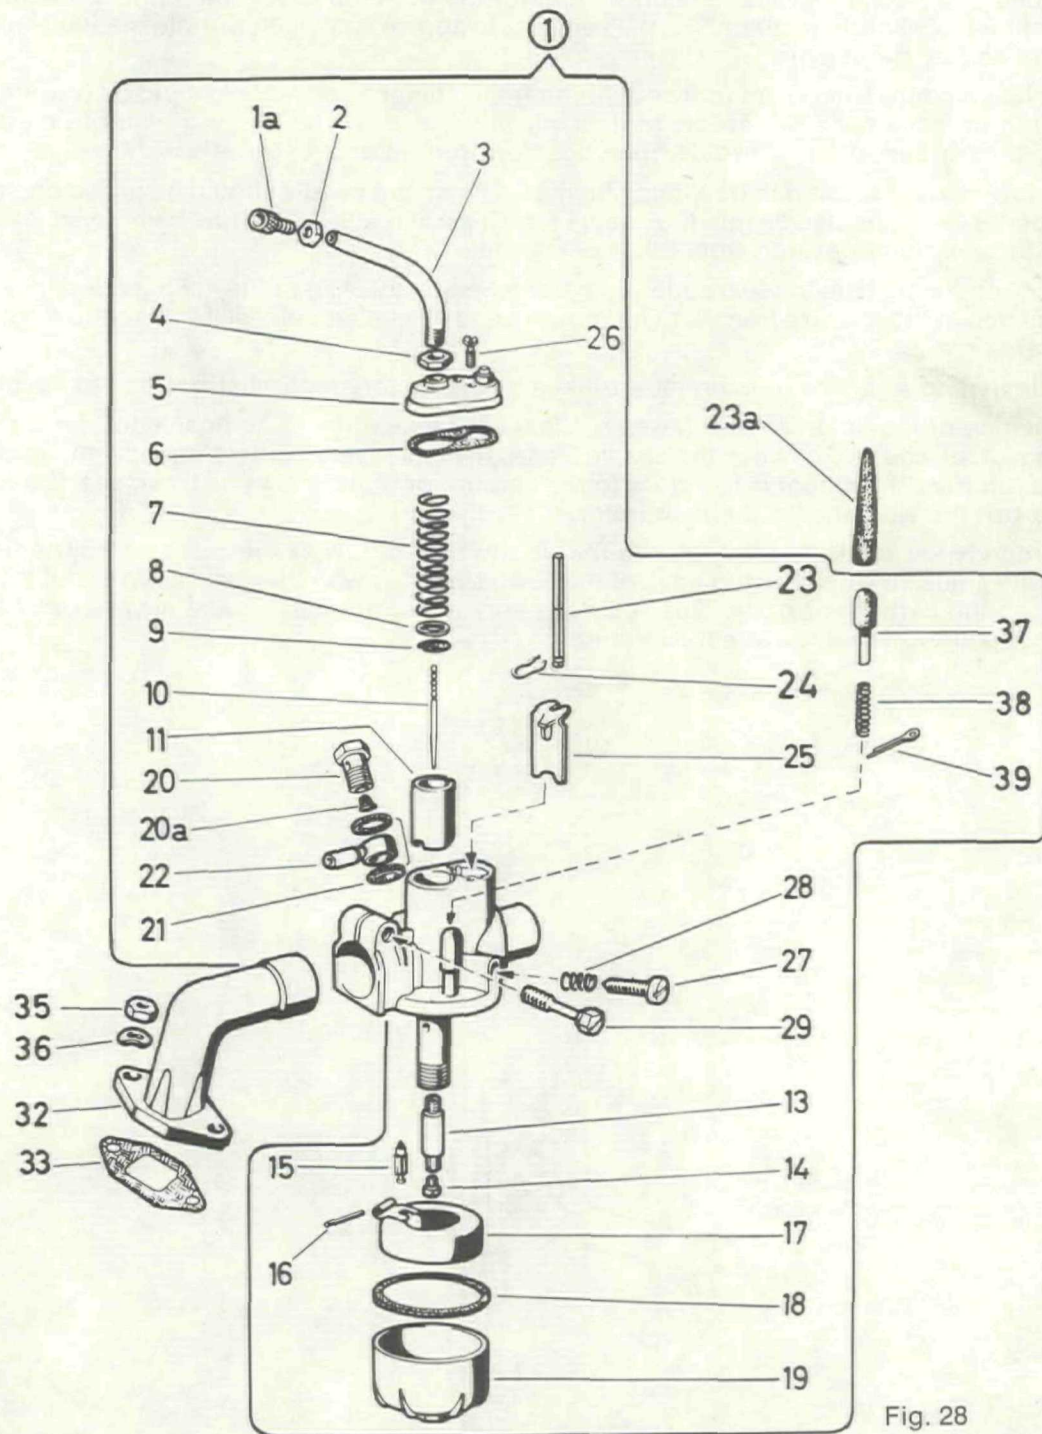

Fig. 28
(The numbers quoted in the brackets refer to the illustration on page 37, fig. 28.)
**NOTE:** The numbers on carburetor lay-out fig. 28 page 37 coincides with the figure numbers in your spare parts manual.